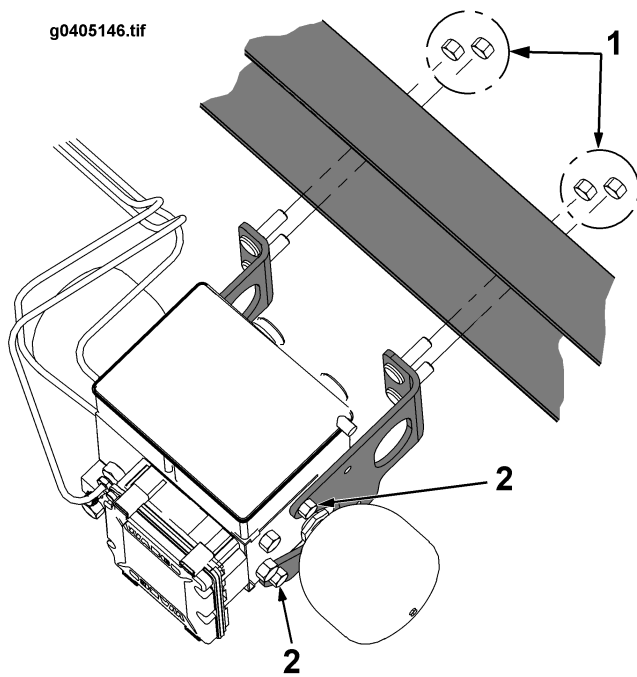

Figure 46 Location of HCU Mounting Hardware
14. To allow easy removal of the HCU, LOOSEN the two bolts securing either HCU mounting bracket to the frame rail. The bolts should be left in place, but must be loose enough to allow slight movement of the mounting bracket. Refer to FIGURE 46.